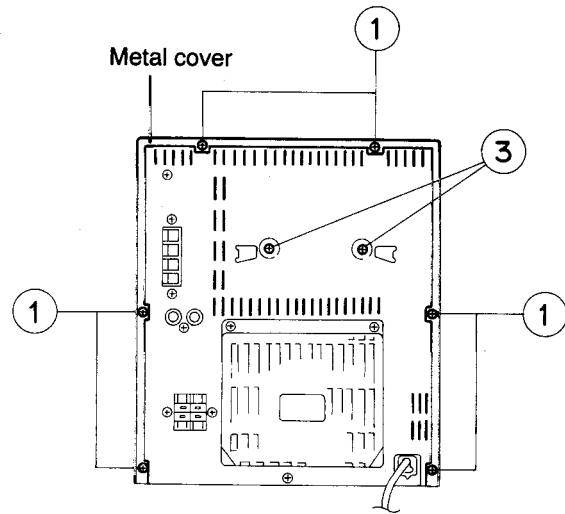

Fig.5-1.
■ Removal of the Metal Cover (See Figs. 5-1,5-2)
1. Remove the six screws ① fastening the metal cover to the rear panel of the main unit. (See Fig. 5-1)
2. Remove the two screws ② fastening the metal cover to the side panel of the main unit. (See Fig. 5-1)
■ Removal of the CD Traverse Mechanism Assembly (See Figs. 5-1 ~5-4)
2. Remove the two screws ② fastening the CD traverse mechanism assembly to the rear panel of the main unit. (See Fig. 5-1)